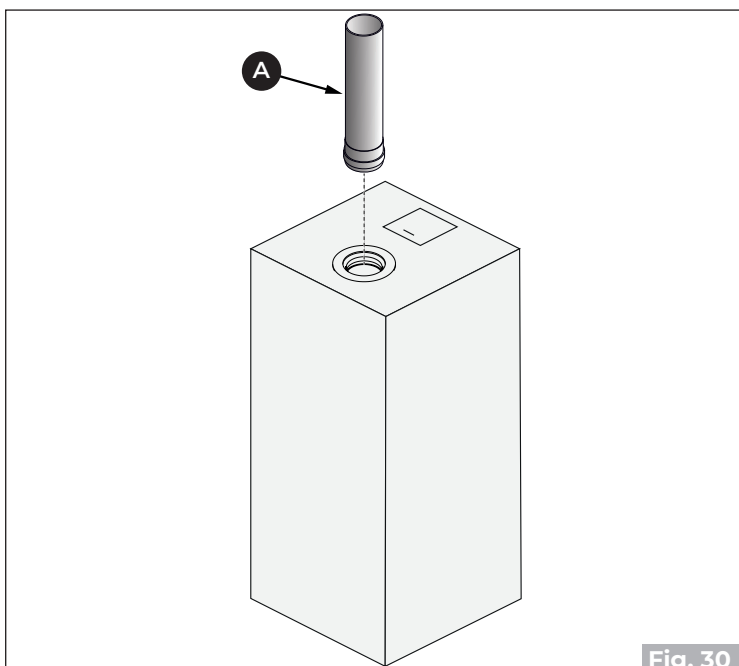

Fig. 30
- Connect the flue gas outlet pipe **(A)** (**"Fig. 30"**).